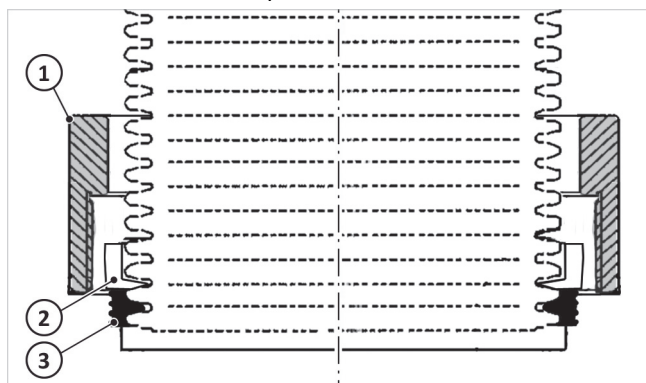

Fig. 10: Union attached
3. As shown in → *fig.10* slide the union nut (1), the snap ring (2) and the seal (3) onto the lower pipe end of the exhaust connection piece.
5. Connect the exhaust connection piece (see → *fig. 10*) with the union nut pointing downwards.